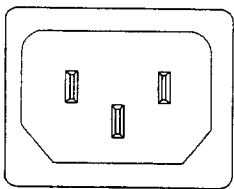

Fig 2-4 AC Connector
All connections to the Recorder are made to the Rear Terminal Panel (Figure 2-4). Any wiring carrying hazardous voltages must conform to all applicable local and national safety codes. AC Mains connection is via an internationally accepted IEC 320 AC mains socket.
Figure 2-4 shows the IEC 320 AC mains socket on the rear of the Recorder. The center pin is the ground termination. If a mating plug is provided, it will be marked with the Ground, LINE (L) or hot, and NEUTRAL (N) or return. In the United States, an approved cable with integral plug (NEMA 5-15 P) is provided. In some instances, a cable with no plug may be provided. In this instance, the user must connect an approved plug to the cable prior to connecting to the AC source. The wire color codes are as follows: